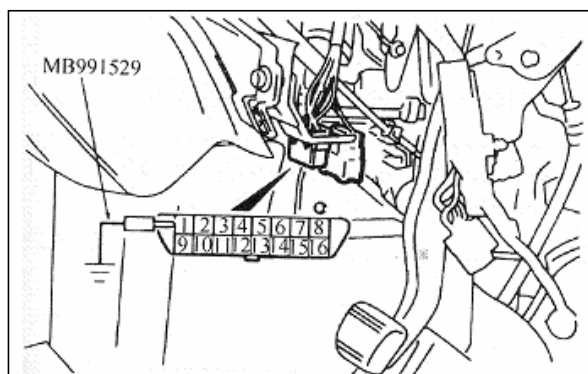

Fig.20-5
①When using the MUT-II (see fig.20-5)